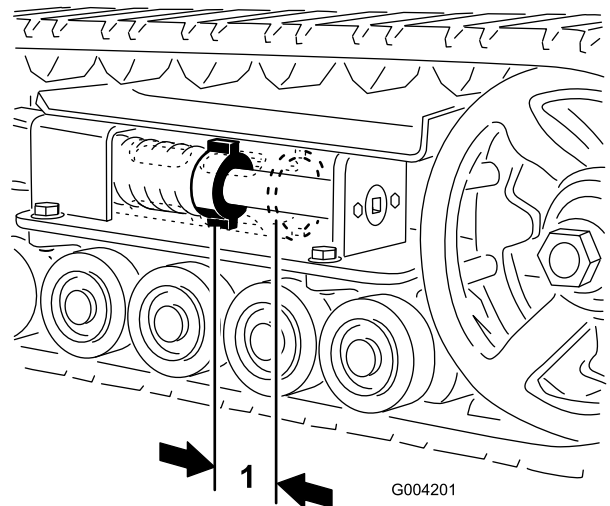
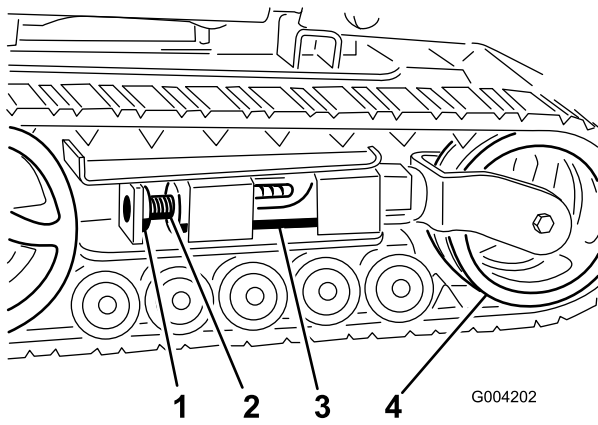
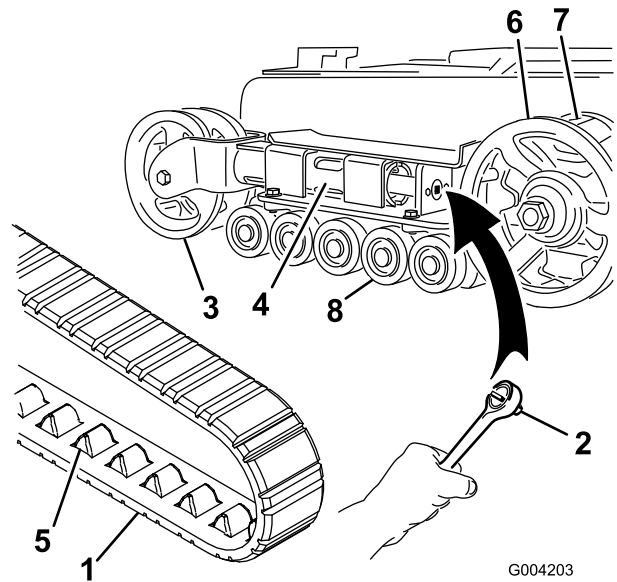
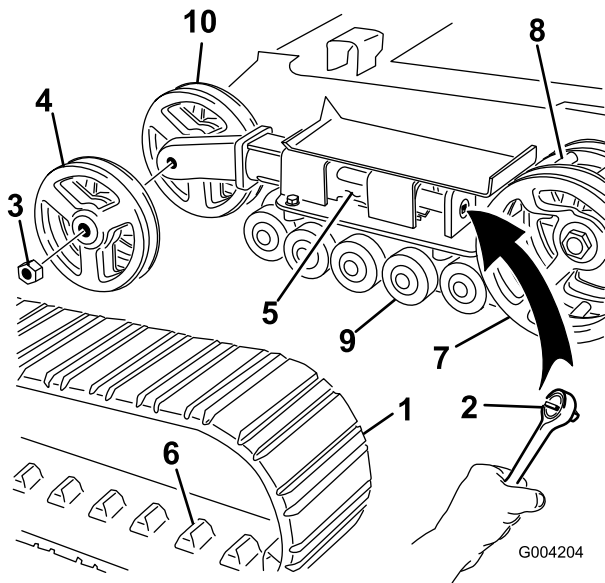

Figure 44
Figure 45
Figure 46
Figure 47
There should be 2-3/4 inches (7 cm) between the tension nut and the back of the tension tube (Figure 44). If not, adjust the track tension using the following procedure:
3. Remove the locking bolt and nut (Figure 45).
- Using a 1/2 inch drive socket (Figure 46), turn the tensioning screw counter-clockwise until the distance between the tension nut and the back of the tension tube (Figure 44) is 2-3/4 inches (7 cm).
- Align the closest notch in the tension screw to the locking bolt hole and secure the screw with the locking bolt and nut (Figure 45).
- Remove the locking bolt and nut (Figure 45).
- Using a 1/2 inch drive socket, release the drive tension by turning the tensioning screw clockwise (Figure 45 and Figure 46).
- Push the tension wheel toward the rear of the unit to move the fork tube against the frame (Figure 46). (If it does not touch the frame, continue turning the tensioning screw until it does.)
- When the track is off of the tension wheel, remove it from the drive sprocket and road wheels (Figure 46).
- Beginning at the drive sprocket, coil the new track around the sprocket, ensuring that the lugs on the track fit between the spacers on the sprocket (Figure 46).
- Push the track under and between the road wheels (Figure 46).
- Turn the tensioning screw counter-clockwise until the distance between the tension nut and the back of the fork tube (Figure 44) is 2-3/4 inches (7 cm).
4. Using a 1/2 inch drive socket, release the drive tension by turning the tensioning screw clockwise (Figure 45 and Figure 47).
5. Push the tension wheel toward the rear of the unit to move the tension tube against the frame (Figure 47). (If it does not touch the frame, continue turning the tensioning screw until it does.)
6. Remove the nut securing the outer tension wheel and remove the wheel (Figure 47).
7. Remove the track (Figure 47).
8. Remove the nut securing the inner tension wheel and remove the wheel (Figure 47).
12. Install the inner tension wheel and secure it with the nut removed previously (Figure 47).
14. Install the new track, ensuring that the lugs in the track fit between the spacers in the middle of the drive sprocket (Figure 47).
15. Install the outer tension wheel and secure it with the nut removed previously (Figure 47).
17. Turn the tensioning screw counter-clockwise until the distance between the tension nut and the back of the tension tube (Figure 44) is 2-3/4 inches (7 cm).